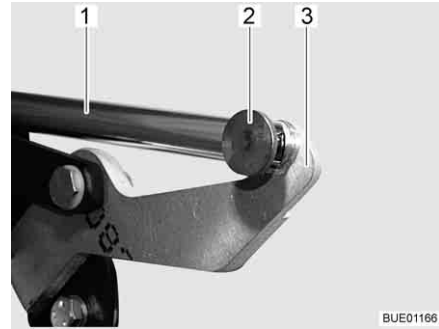

Fig. 118 Drive
- Detach the pin and cotter pin (Fig. 118,2) between the push rod (Fig. 118,1) and lever (Fig. 118,3).